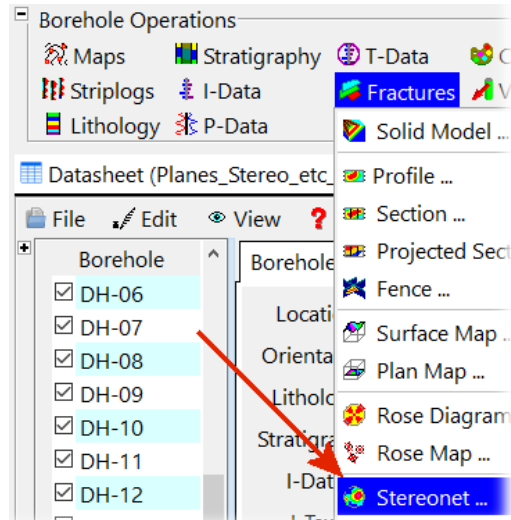

Figure 11
- Select the *Borehole Operations / Fractures / Stereonet* program (Figure 11).